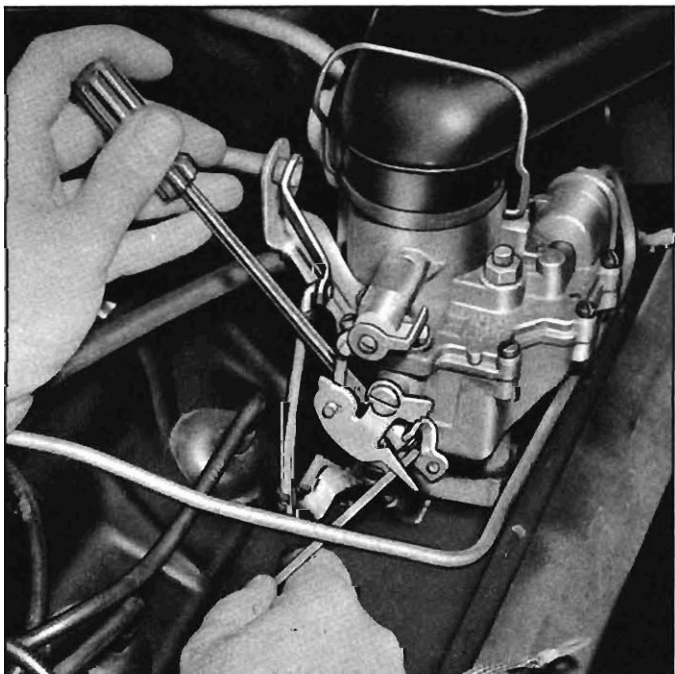

Fig. 7-3—Idle Adjustments.
1. Initial Adjustments (Refer to Figure 7-3)